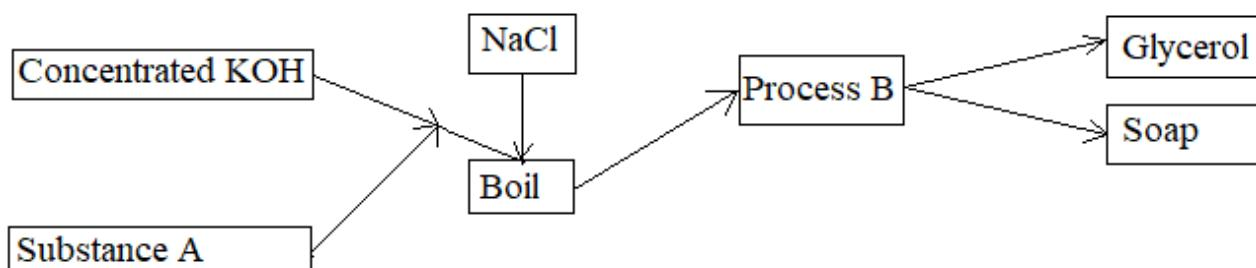

Figure 3
c. Figure 3 shows a flow diagram of soap making process.